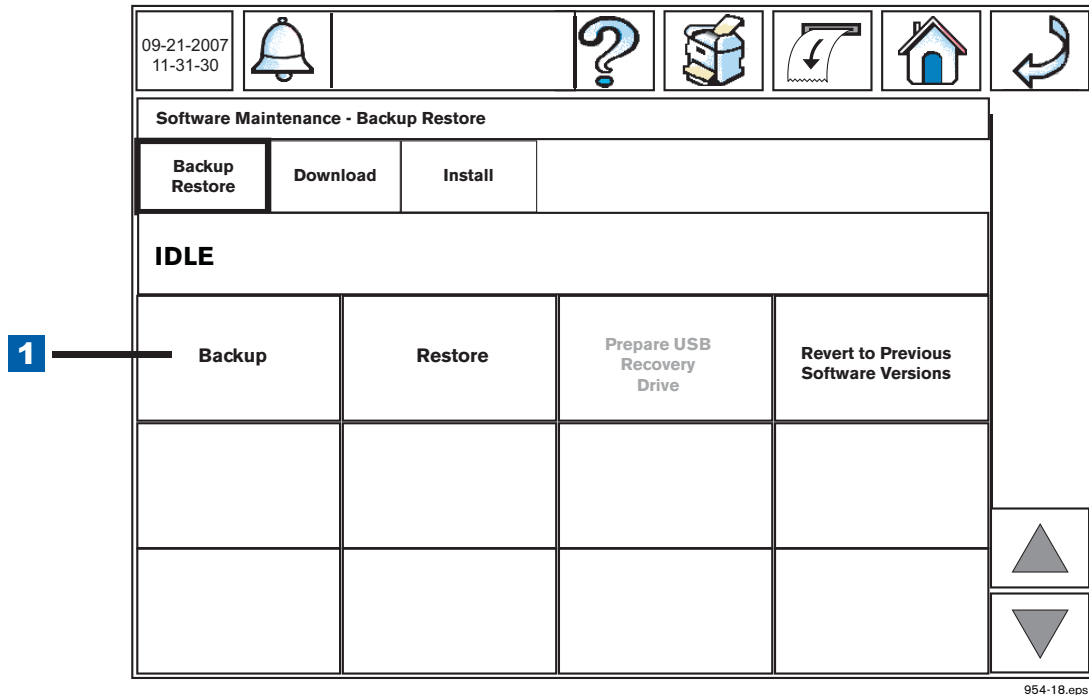

Figure 4. Initiating A System Backup
3. Touch the Software Maintenance button on the Diagnostic Maintenance screen (see Figure 3) to open the Software Maintenance - Backup Restore tab screen (see Figure 4).
4. Touch the Backup button (item 1 in Figure 4) to begin the system backup process.
**LEGEND FOR NUMBERED BOX IN Figure 4**